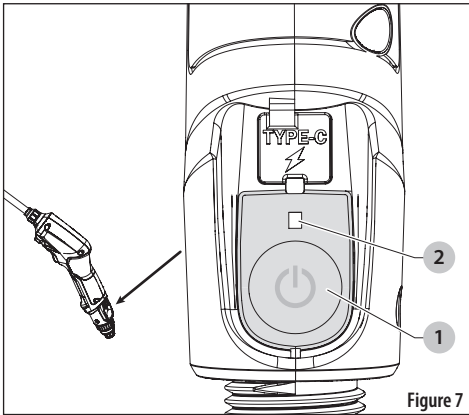

Figure 7
1. Press the power button (1) to turn the sprayer ON. A light (2) above the power button turns on to indicate the battery level. See *Figure 7*.
3. Press the power button to turn the power wand sprayer OFF. See Figure 7.